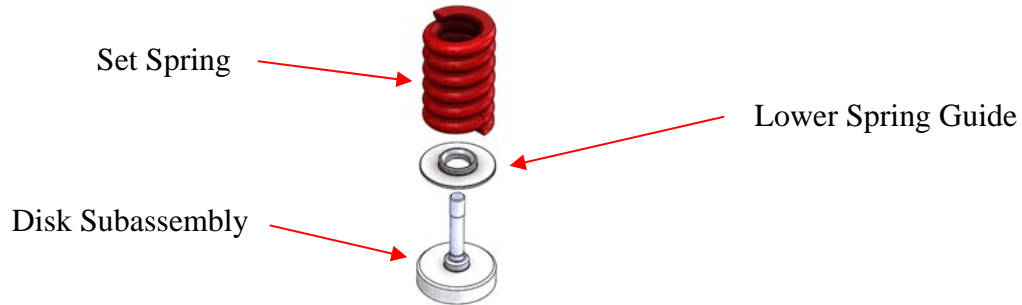

Figure 19: Body Internal Components
- 5. Remove the set spring and lower spring guide (if one is present) and discard the disk subassembly. See Figure 19.